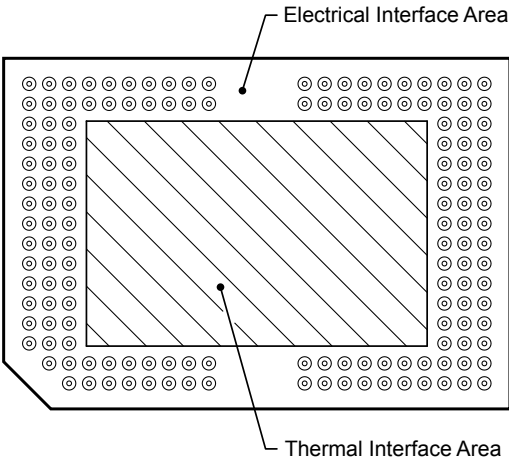

图 5-7. System Mounting Interface Loads
- (1) Uniformly distributed within area shown in 图 5-7